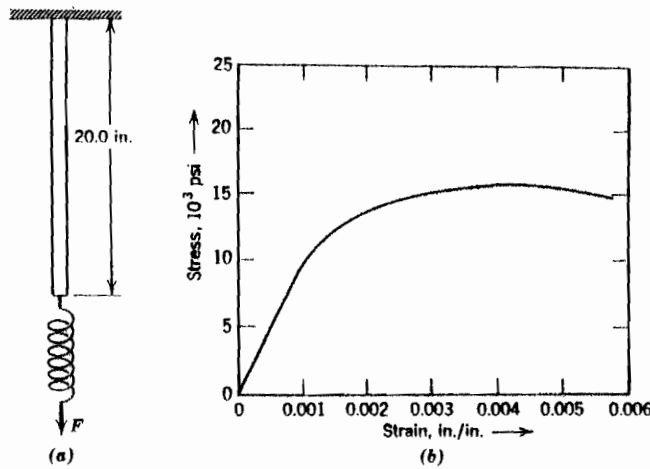

Fig. 1
1. (25%) A rod in Fig. 1(a) of a material having the stress-strain curve shown in Fig. 1(b) has a spring attached at one end. The spring constant of this spring is 20,000 lb/in. The rod has a cross-sectional area of 1.00 in² and is 20.0 inch long. The load F is increased until the spring has elongated 0.75 inch and then decreased to zero. Determine the closest length of the rod after the load is removed?
Hint: the elastic limit in Fig. 1(b) is 10,000 psi.